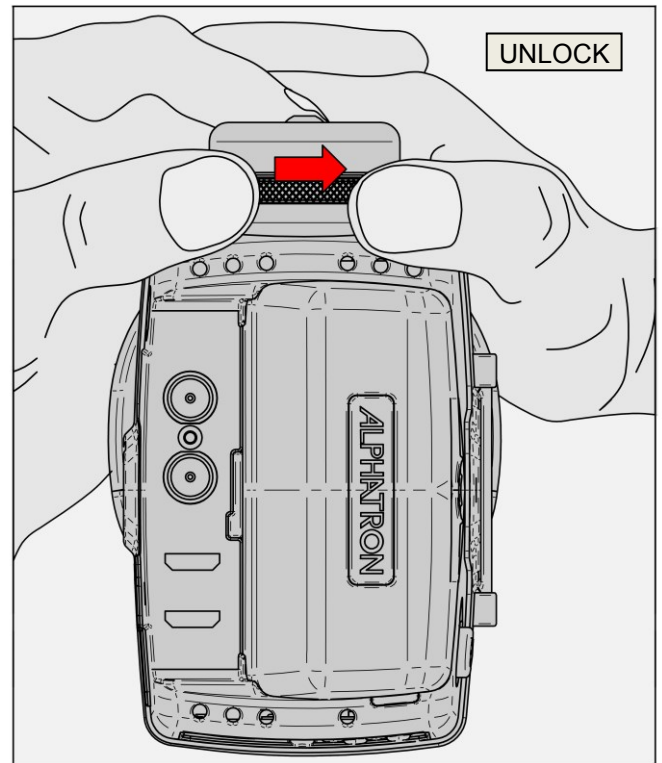

Figure 8: use two thumbs to unlock the EVF. The red arrow shows the unlock direction.
**NOTE:** when you can't loosen the thumbscrew (E) because it's tightened too much, please use the following technique as shown in “figure 8”. Place both thumbs at either side of the thumbscrew, press down and to the right (when holding the bracket and EVF as shown in figure 8).